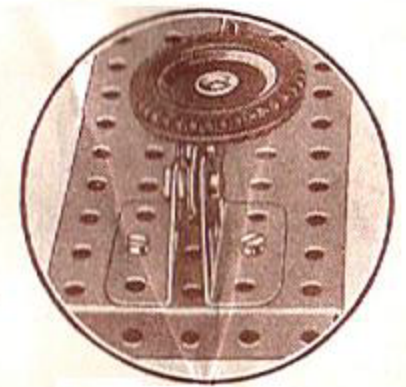

Fig. O.20a
The 5½" Strip (4) is held on a ⅜" Bolt between two Trunnions as shown in the inset, Fig. O.20a.